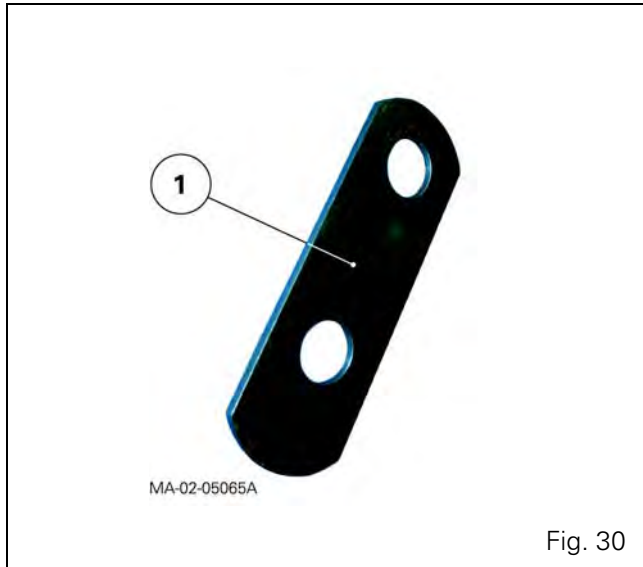

Fig. 30
When the front frame is fitted to the Perkins EEM engine, the mating face of the engine sump is not in contact with the mating face of the front frame. It is therefore advised to fill this space with shims (1) (Fig. 30) whose thickness will be measured and set afterwards.